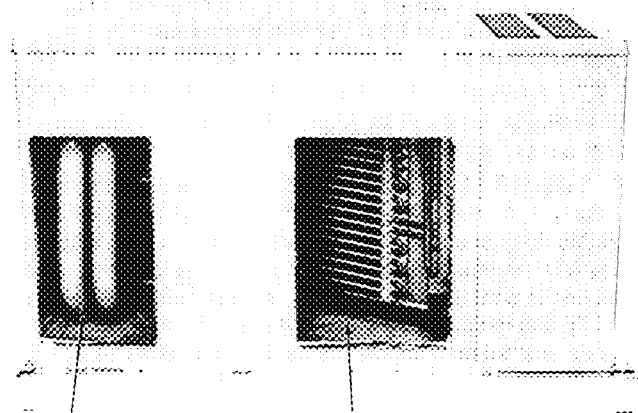

Fig. 13 — Supply and Return Duct Openings
2. Remove return duct cover located on duct panel. Save duct cover and screws. See Fig. 13 for illustration of duct cover removed.
5. Remove supply duct cover located on duct panel. Save duct cover and screws. See Fig. 13 for illustration of duct cover removed.